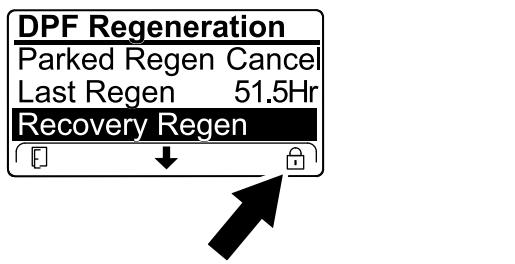

Figure 77
- If the engine computer has not requested a recovery regeneration and you scroll down to the RECOVERY REGEN option, the recovery regeneration locks and the lock icon (Figure 77) appears in the lower right corner of the InfoCenter.